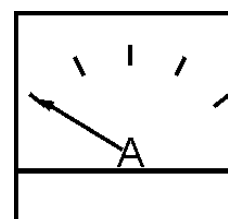

Figure 50. Ammeter (No Load)
11. The ammeter (Figure 50) will indicate zero amps with no load applied. When a load is applied, this meter will indicate the amount of current that the load is drawing from the generator.